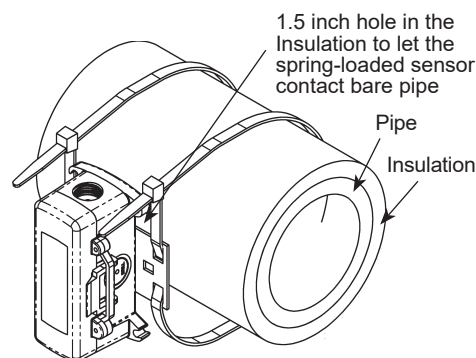

Fig. 7: Spring Loaded Strap Mounting (BAPI-Box 2 Enclosure shown but mounting is similar for all BAPI-Boxes.)
1. Figure 7 shows a typical direct pipe installation for insulated pipes from 5" to 14". Insulation thickness accommodated is 0.5" to 2.5".